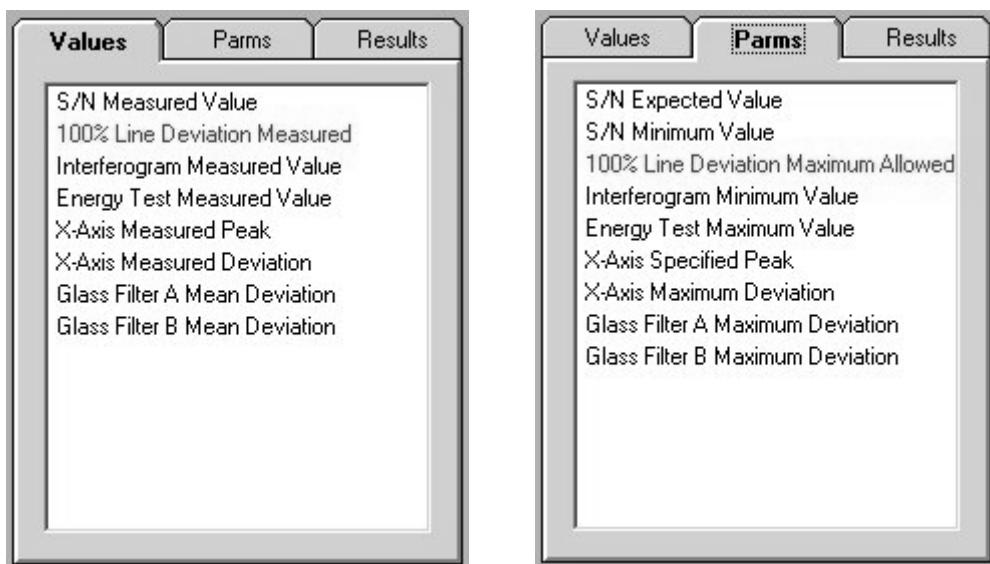

Figure 341: OVP - Values and P parms tab with tests specified
Select the instrument configuration from the *Configuration* drop-down list (A), and the test results to be shown from the *Test Results Table* drop-down list (B). Check the corresponding test category option (C). The *Values* tab (see figure 341) lists all individual tests specified for the test category. If you click on any of the tests, the test will be marked red and shown in the chart on the right side.